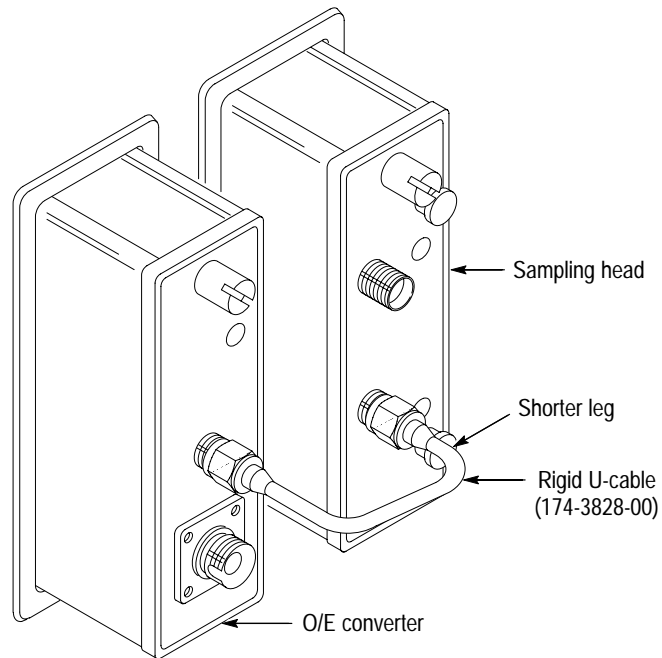

Figure 2: Using the rigid connector (all sampling heads except SD-32)
NOTE. For the best performance, connect the SD-48 Optical-to-Electrical Converter to the input of the sampling head using the rigid connector provided. The sampling head must be in the compartment immediately to the right of the O/E converter. See Figure 2.
- a. On all sampling heads *except* the SD-32, use the rigid connector and install the shorter leg of the connector on the sampling head. See Figure 2.